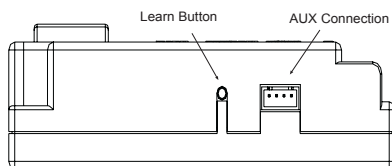

Figure 36 - Gas Module Left Side
1. There is a switch located on the right side of the module that reads REMOTE/OFF (Figure 36).
- To program the module (make sure the system has power), locate the learn button (Figure 36) on the module. Press and release the learn button. There will be a beep sound from the module. Then press any button on the remote transmitter. Once the module's internal receiver accepts the transmitter code, there will be a series of confirming beeps.